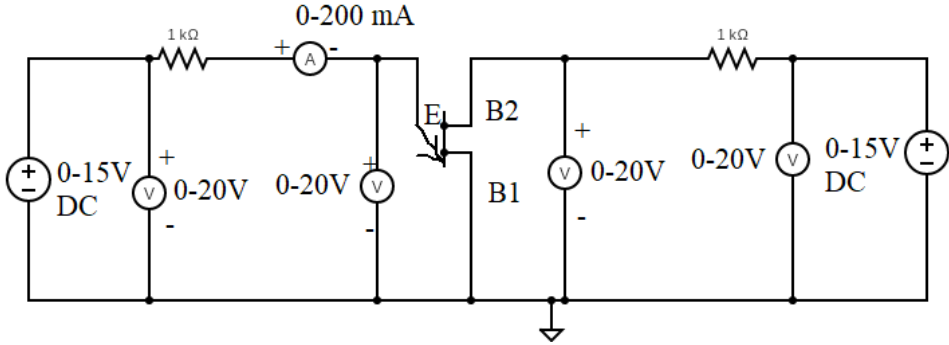

Figure 11.2: Circuit Diagram for UJT Characteristics
1. Connection is made as per given figure 11.2.